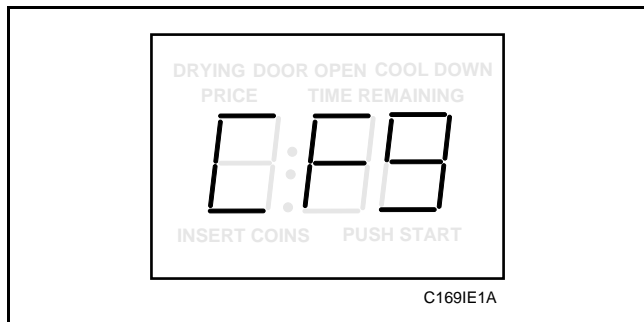

Figure 77
3. Press the LOW TEMP (+) pad **or** the NO HEAT (-) pad to scroll through the programmable options until “CFg” appears in the VFD, *Figure 77*.